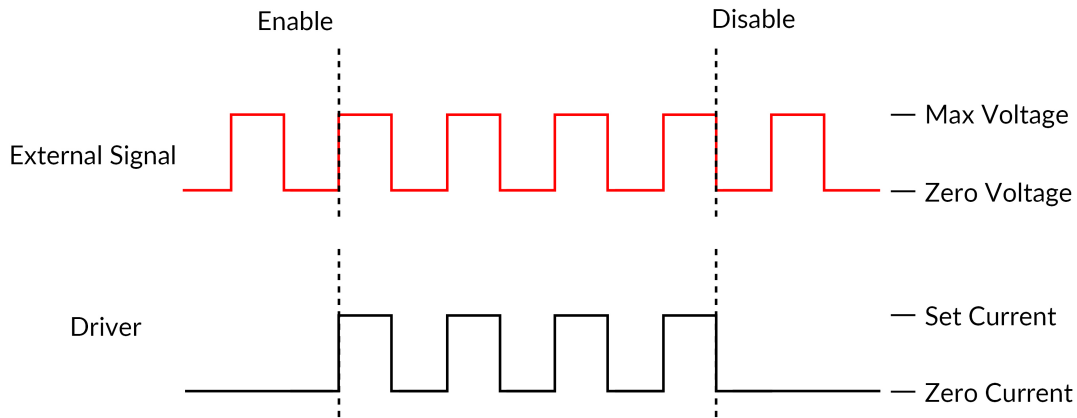

Figure 4.4: Driver Signal Response to External Source in External TTL Mode
b) The **External TTL** mode (Fig. 4.4) has the light source follow a TTL signal provided by an external source connected to the **BNC Input**. When this mode is active, the driver channel will show **TTL** under **MODE**. This mode has no additional sequence options.